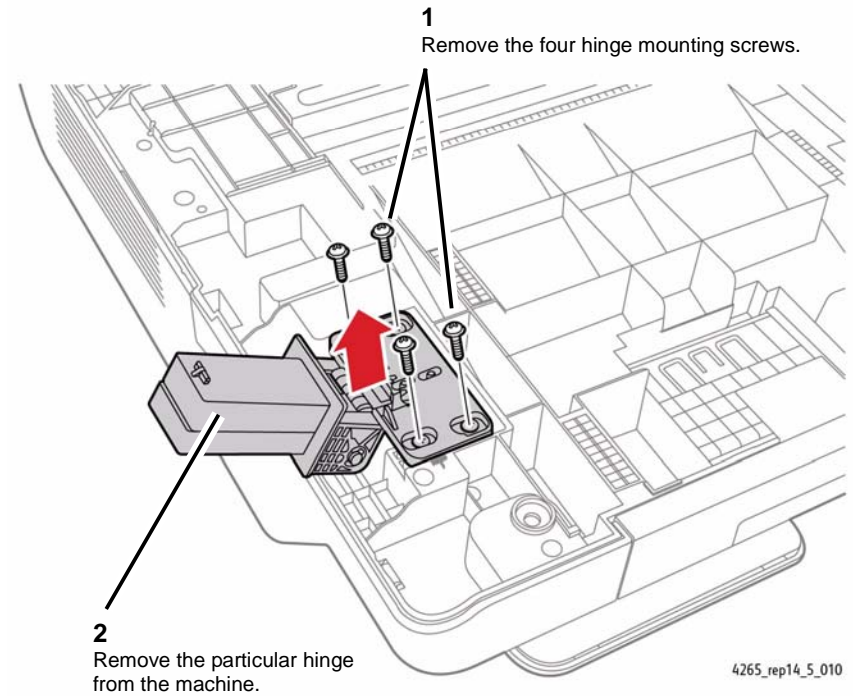

Figure 1 Removing the DADF Left/Right Hinges
3. Remove the DADF Left/Right Hinges (Figure 1).